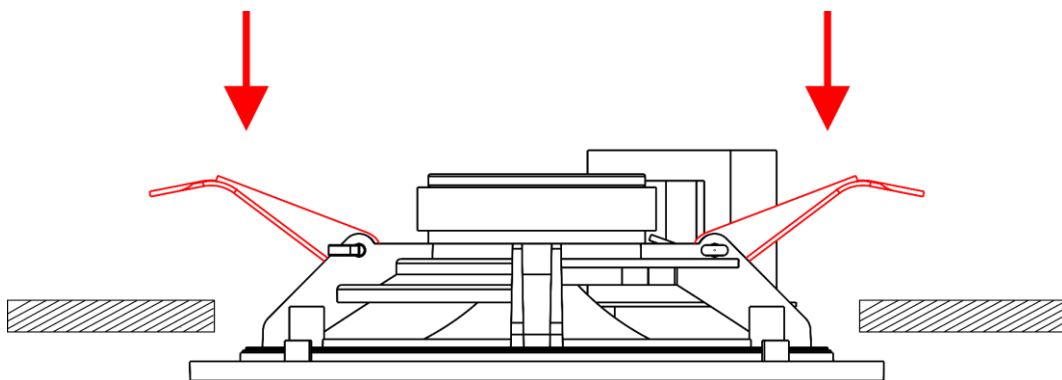

Fig. 03
- 06) The **mounting clamps (03)** will automatically release themselves, hereby fixing the speaker in position (Fig. 03).